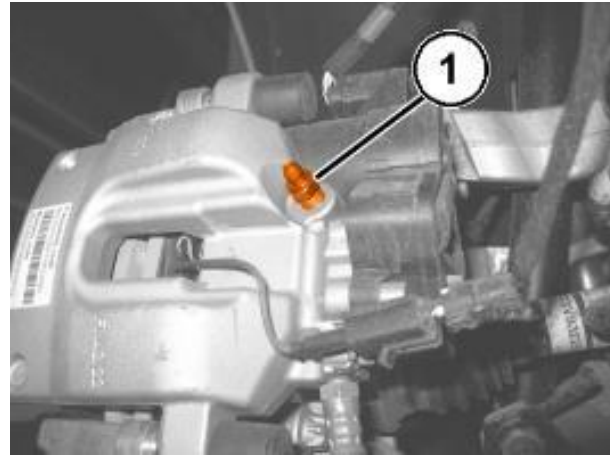

Figure 31 – Brake Bleeder Valve
73. Working at the right rear caliper, position the brake fluid recovery hose to the bleeder screw (1) and to the recovery container. Open the bleeder screw (1) and without applying any pedal pressure on the system, allow a small amount of brake fluid to drain into the recovery container. Then tighten the bleeder screw and remove the recovery hose (Figure 31).
78. Connect the pipe to the valve of the rear right brake caliper. Open the valve, slowly press the brake pedal down fully three or more times, until there are no more air bubbles in the hose through which the oil flows into the container. Tighten the bleed valve to the prescribed torque of 10 N·m (89 In. lbs.) (Figure 31).